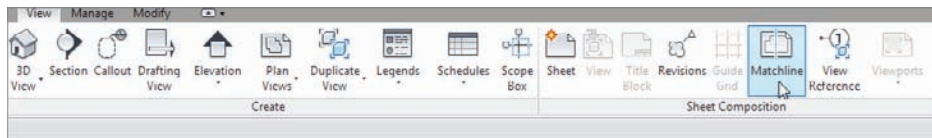

FIGURE 13.9 The Matchline button on the View tab
2. On the Sheet Composition panel of the View tab, click the Matchline button, as shown in Figure 13.9.